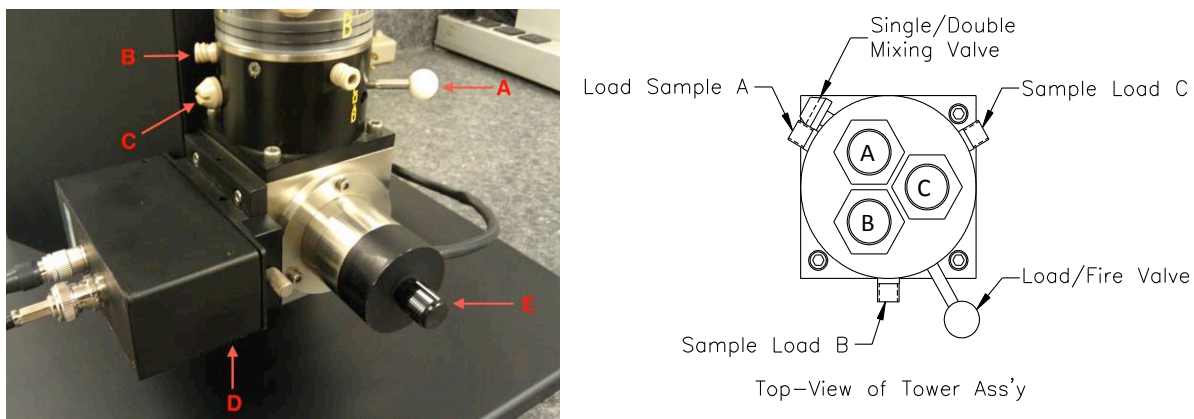

Figure-2: The Tower Assembly. A. Load/Fire Valve for syringes
2. Plug the Photodiode Cable into the back of the Motor Control Box. This connection is marked “*Diode Signal*”. The photodiode is attached to the front of the Steel Cube with three Socket Head Cap Screws (6-32 x 3/8 inch) using a 7/64” Allen Driver (*Figure-2*).
3. Connect the Photomultiplier (PMT) to the Steel Cube with four Socket Head Cap Screws (6-32 x 3/8 inch) using a 7/64” Allen Driver (*Figure-2*).
To change between single mixing and double mixing simply turn the single mixing double mixing valve shown in *Figure-2*. If the slot in this valve is in the vertical position, it opens the line in syringe "B", and then allows the system to perform double mixing. If the valve position is in the horizontal position, then the system is in the single mixing configuration.